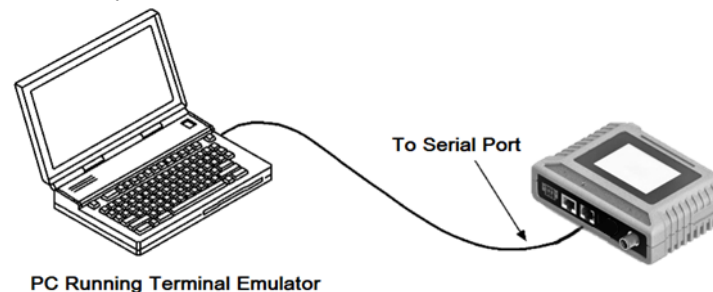

Figure 3-6. PC Connection for Programming/Management
1. Connect a PC to the unit's USB port as shown in Figure 3-6. Maximum recommended cable length is 6 ft/2 m.
1. Connect a PC to the unit's COM port as shown in Figure 3-6. Maximum recommended cable length is 6 ft/2 m.